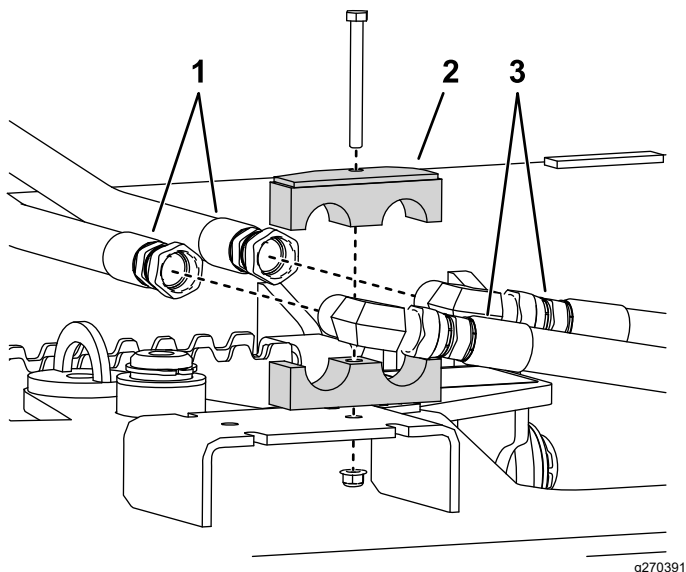

Figure 1
2. Remove the nut and bolt securing the hose clamp to the hose mount (Figure 1).
3. Disconnect the power rake motor hoses from the attachment hoses at the angle fitting (Figure 1).